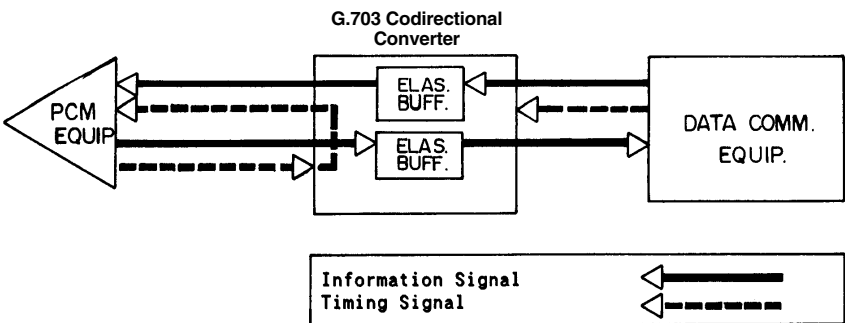

Figure 2-4. LBT-DCE21 Connection.
- Receive Clock and Transmit Clock are both inputs to the Converter (with X.21 interface only), which serves as a DTE (see Figure 2-4).